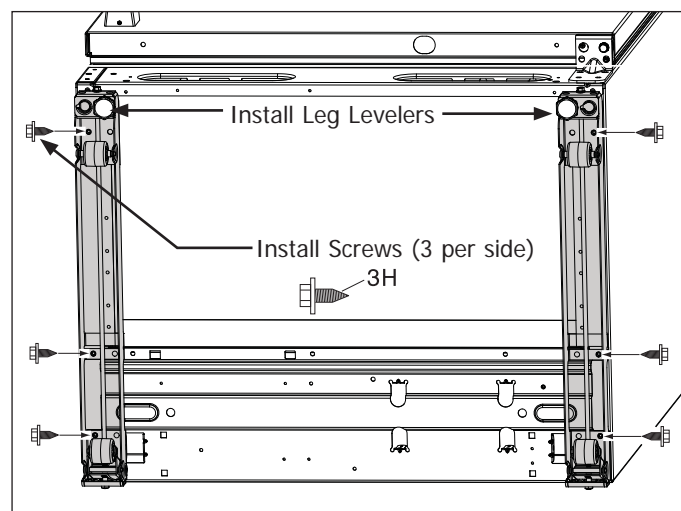

Figure 2-15.
- a. Attach the current leg leveler to leveling system. The leg leveler is a common part that will work on both bottom sides of the unit. (See Figure 2-15).
- b. Attach leg leveler with three (3) screws per side using a 3/8 socket.